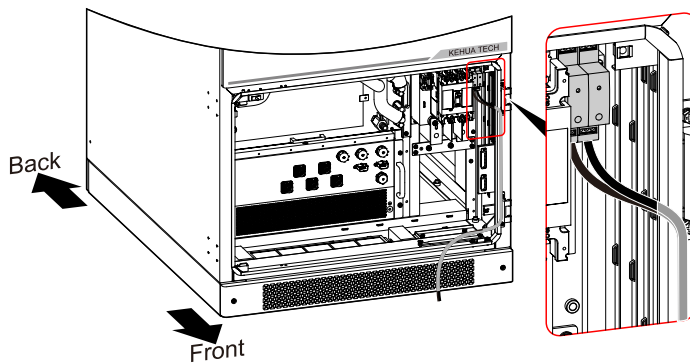
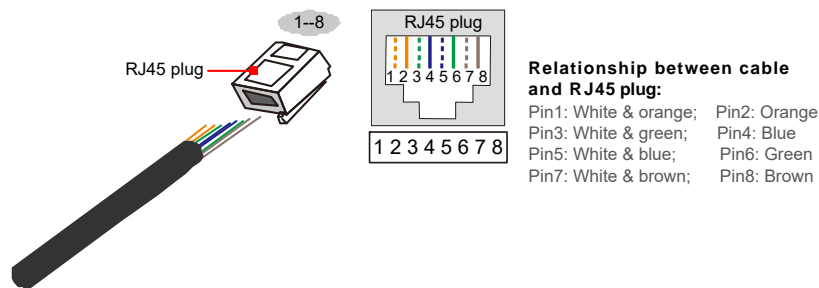

Figure4-32 Connection diagram of Network signal SPD LAN cables
Figure4-33 Relationship between the cable and RJ45 plug
Step 3 Connect the crimped Network signal SPD LAN cables to the corresponding communication port of the energy storage system, as shown in Figure4-32, Figure4-33.